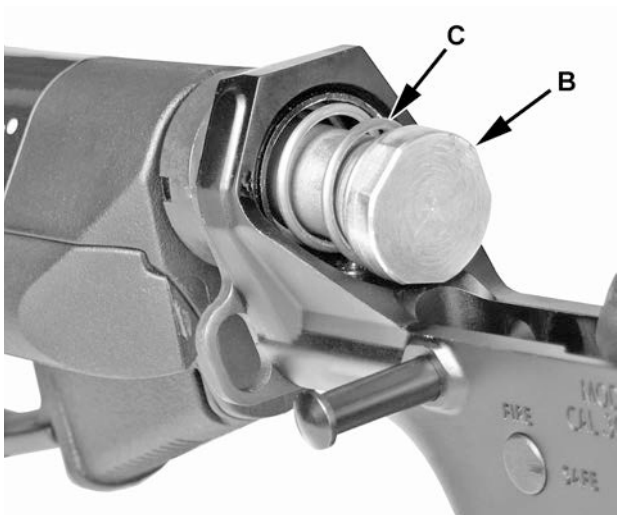

Figure 42
3. Remove the buffer (A) and spring (C). See figure 42.